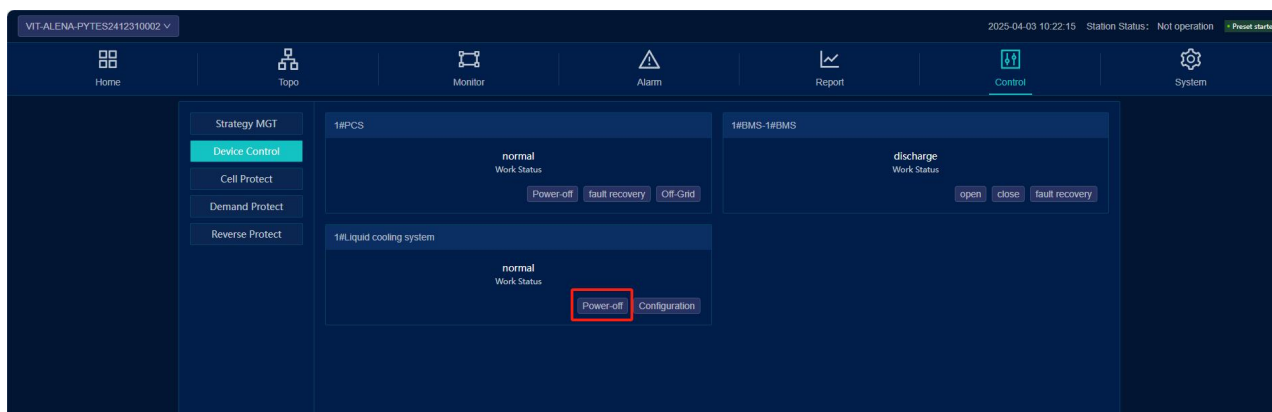

Fig.6.11 Turn off the liquid cooler
Step 2: Log in to the cloud platform, and in "Control Center - Equipment Control - Liquid Cooling Unit", turn off the liquid cooling unit when its operation status is standby, as shown in Figure 6.11.